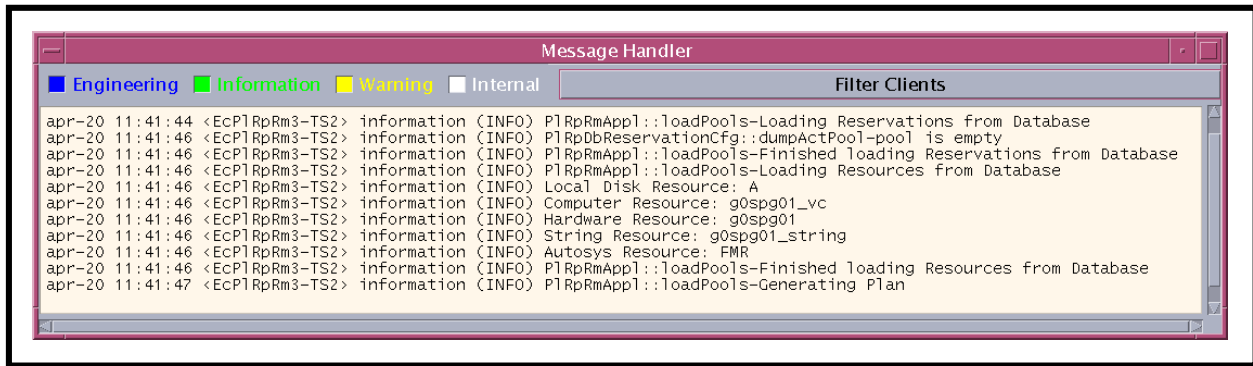

Figure 3. Message Handler GUI
- The **Message Handler** graphical user interface (GUI) (Figure 3) is displayed.
- The **Message Handler** GUI (Figure 3) disappears.